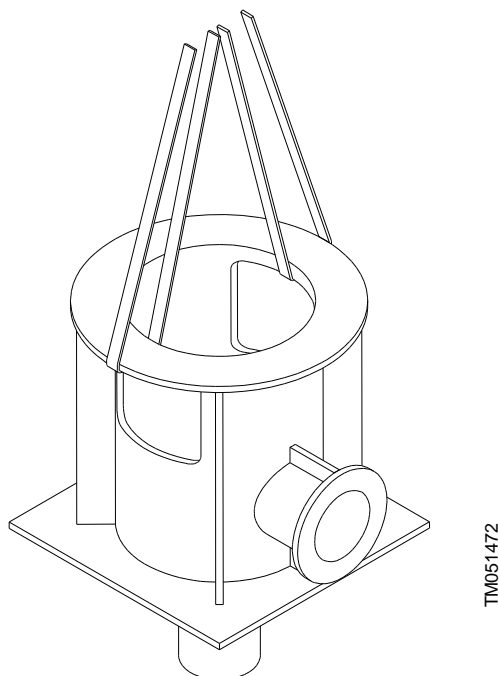

Fig. 14 Lifting large discharge heads using slings
8. Attach the sling to the eyebolts and hoist the discharge head over the pump (the lifting ears are not used to lift the discharge head when not attached to the pump because the discharge head is heavier on the discharge side and would tip). Very large discharge heads that are too heavy to lift by the driver mounting holes may be lifted via slings through the hand holes or by passing a bar through the hand holes. See fig. 14.